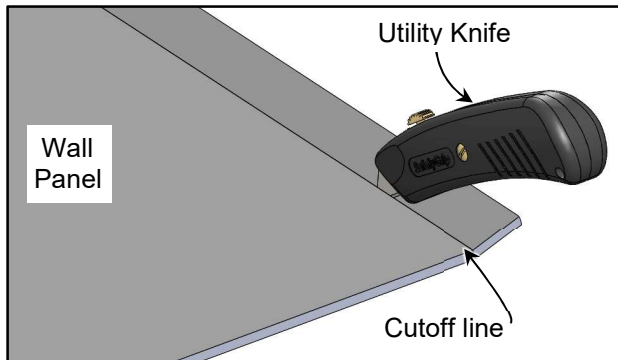

Figure 17
1. Cut the height of the Wall Panel to size. Use a utility knife, cutting against a straight edge to produce a clean, precise edge (See Figure 17).